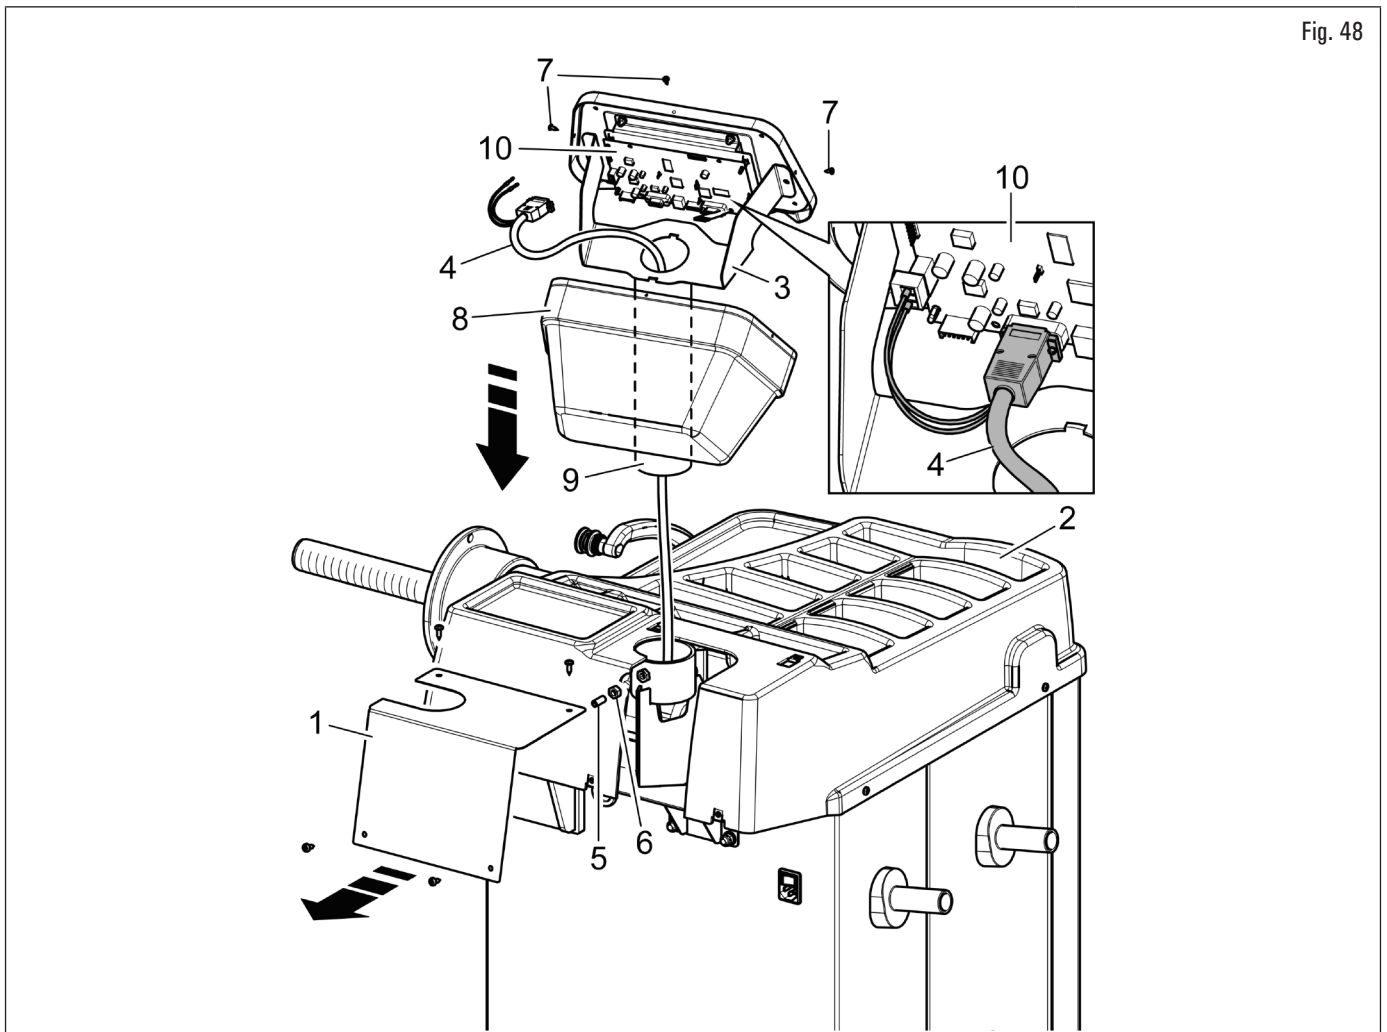

Fig. 48
1. Remove the plate (Fig. 48 ref. 1) from the top cover (Fig. 48 ref. 2). Place the monitor with its support in the immediate vicinity of the mounting location. Remove the bolts (Fig. 48 ref. 7) from the monitor to release the rear cover (Fig. 48 ref. 8). Keeping the rear cover as shown in the figure, insert the cable (Fig. 48 ref. 4) through the support hose (Fig. 48 ref. 9). Connect the cable (Fig. 48 ref. 4) to the board (Fig. 48 ref. 10) as shown in the figure. Reposition the rear cover (Fig. 48 ref. 8) on the upper casing and secure it with the bolts (Fig. 48 ref. 7) previously removed;
2. assemble the complete monitor support (Fig. 48 ref. 3) in the provided seat. Block the complete monitor support (Fig. 48 ref. 3) with the grub screw (Fig. 48 ref. 5) and the nut (Fig. 48 ref. 6) supplied;
During this operation, pay particular attention to the power supply cable, to the HDMI cable and to the keyboard cables (Fig. 48 ref. 4) in order not to damage them. make sure they have been introduced in the support hose, as shown in Fig. 48.